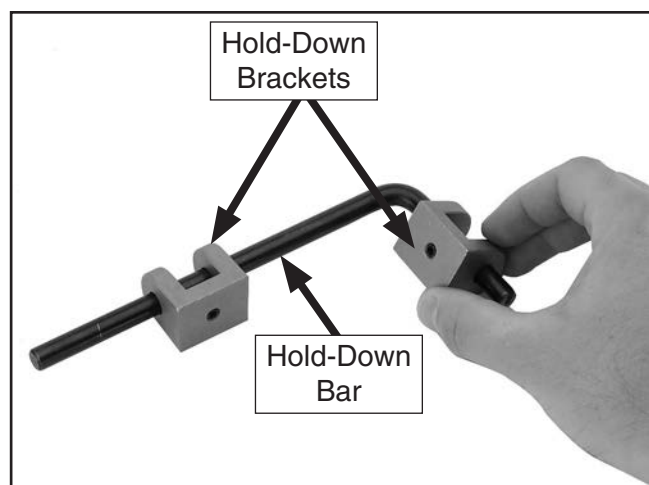

Figure 23. Brackets on hold-down bar.
- Slide two hold-down brackets onto each of the hold-down bars (one on the short arm, one on the long arm), as shown in **Figure 23**.